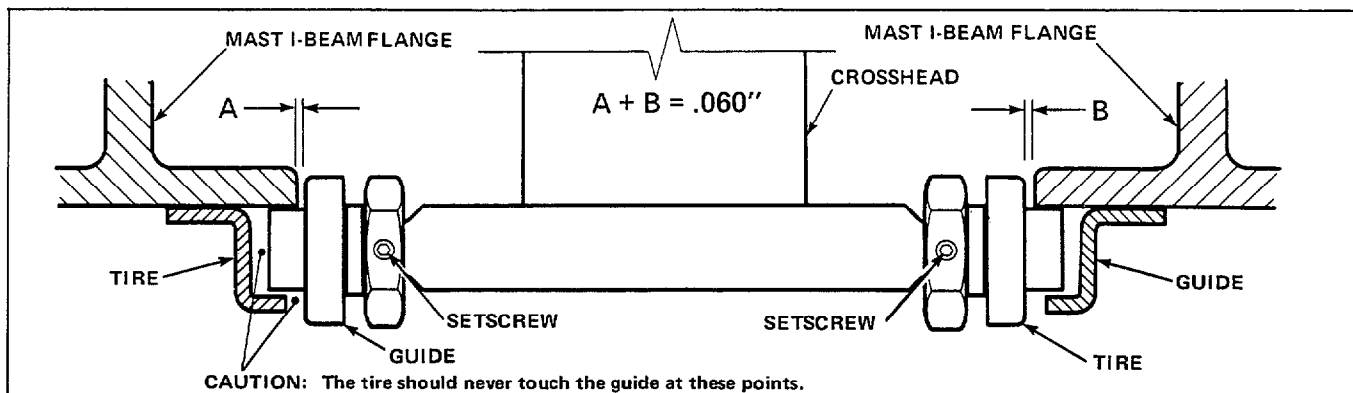

Figure 21. Triple Lift Crosshead Adjustment
The sum total clearance between the tire shoulders and the Mast I-Beam must be .060" as shown in Figure 21. If one tire is touching the I-Beam (which is acceptable) the other tire should have .060" clearance.
1. Loosen the setscrew. See Figure 21.
2. Use an open end wrench to turn the hex nut to attain the clearance shown in Figure 21.